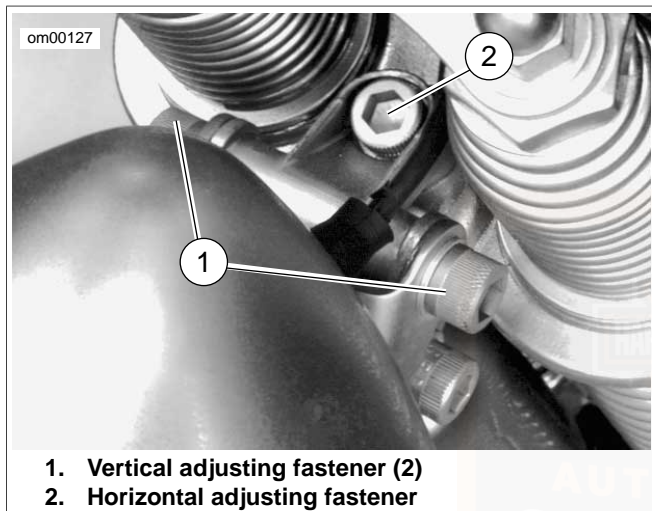

Figure 68. Headlamp Adjustment: FXSTS
1. See Figure 68. Set vertical adjustment.
- a. Loosen the two vertical adjustment fasteners (1).